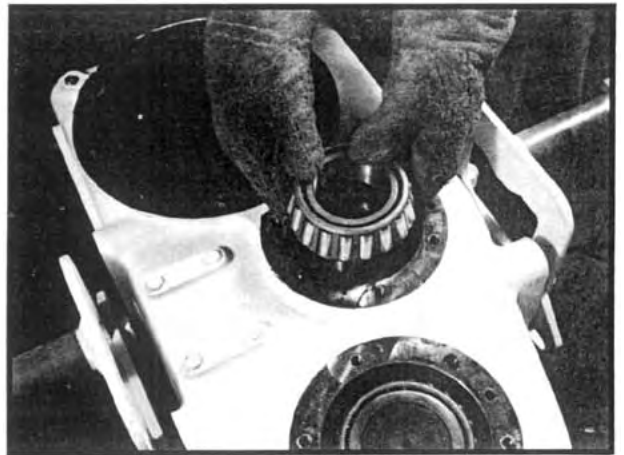

Fig 54
3. Place one of the bearing cups into its bore in the front of the housing. Install the front intermediate shaft cap with a new gasket. Install the (6) cap screws and washers. Torque to specification.
5. Slip the spacer washer over the intermediate shaft against the gear. Heat and install the remaining bearing cone assembly against the spacer washer. See Figure 54.